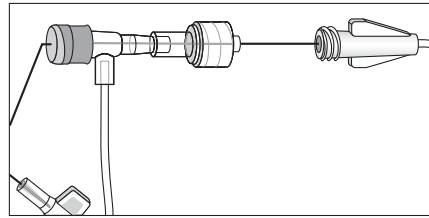

Figure 25
**⚠️ Warning:** Remove placement wire and Luer-Lock sidearm assembly as a unit (refer to Figure 25). Failure to do so may result in wire breakage.